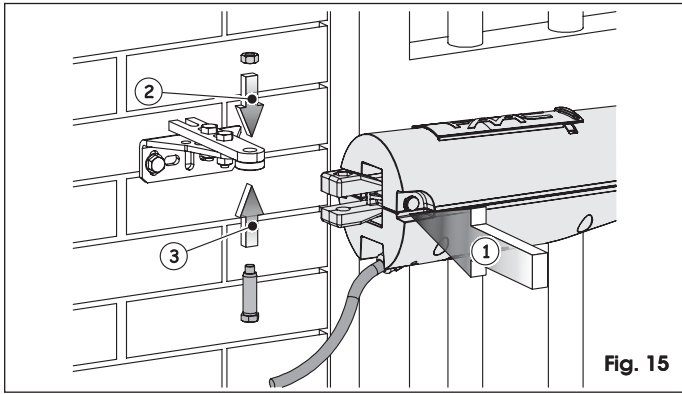

Fig. 15
- 6. Secure the operator to the rear bracket using the appropriate bolt supplied, as indicated in figure 15.